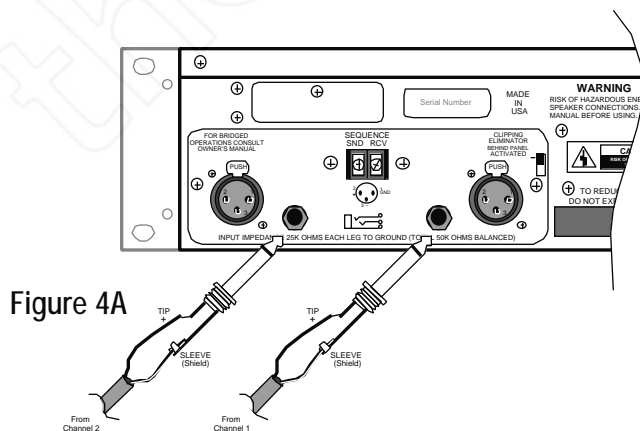
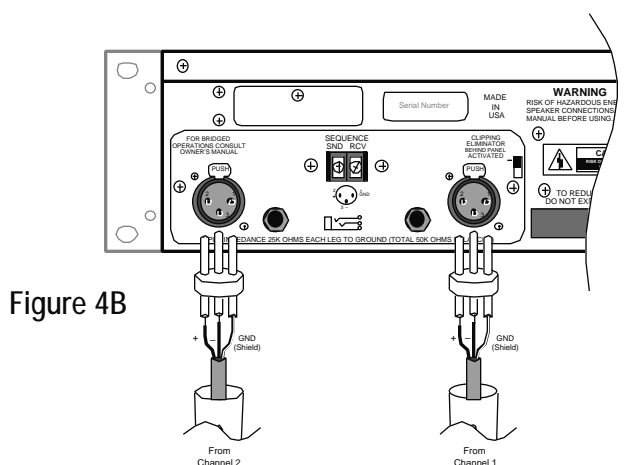

Figure 4A
Figure 4B
**1/4-inch phone plug:** Use a 2-conductor (Tip-Sleeve) 1/4" phone plug. The tip of the plug carries the signal and the sleeve is ground. The ring connection in the jack is automatically grounded by the sleeve (see Figure 4A). **XLR:** Pin 2 carries the (+, hot, non-inverting) side of the signal, and Pin 1 is ground. Short Pin 3 to Pin 1 in order to reference the input differential amplifier for the correct gain (see Figure 4B). **Note:** For both amplifiers, the gain remains the same regardless of whether the input is balanced or unbalanced. Note: The polarity of the balanced inputs can be reversed by changing four jumpers located on the Input Board. See page 14 for more information.